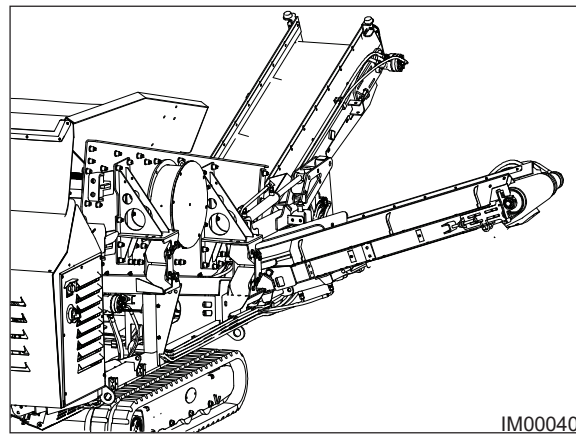

Fig: 7.10 - Mid-Size Conveyor Working Position
6. Once the conveyor has reached the Working Position (Fig: 7.10), release the control lever.